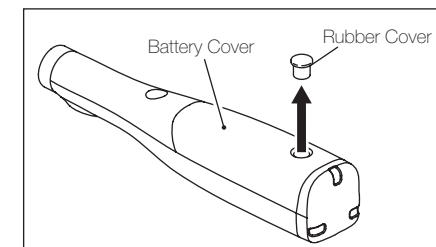

Fig. 13
2. Remove the rubber cover from the battery cover with a thin flatblade screwdriver. (Fig. 13)